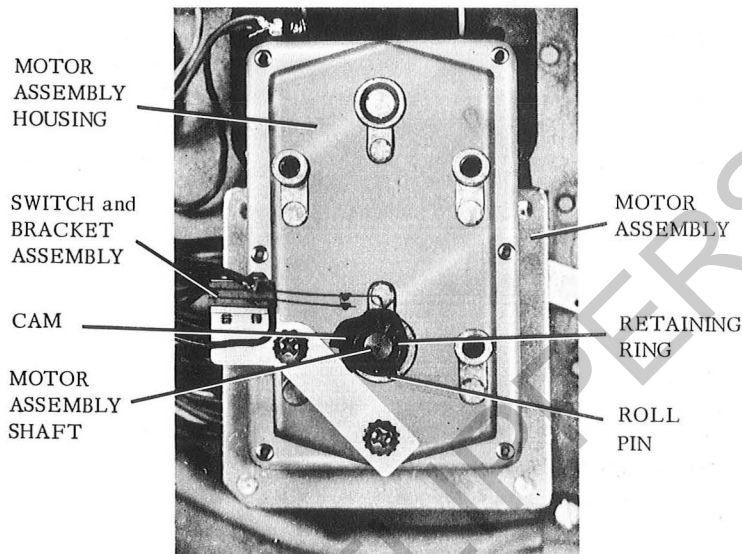

Figure 3.
16. Install ROLL PIN, Part No. 73782-32, in MOTOR ASSEMBLY SHAFT as shown in Figure 3.
17. Verify that MOTOR ASSEMBLY is in normal rest position then install CAM, Part No. 136524, on MOTOR ASSEMBLY SHAFT as shown in Figure 3.
18. Install RETAINING RING, Part No. 125797, on MOTOR ASSEMBLY SHAFT as shown in Figure 3.
19. Install and position SWITCH and BRACKET ASSEMBLY, Part No. 137884, on MOTOR ASSEMBLY HOUSING as shown in Figure 3. Secure SWITCH and BRACKET ASSEMBLY to MOTOR ASSEMBLY HOUSING with two Screws, Part No. 73533-25. Do not tighten screws at this time.
20. With V portion of switch blade resting on CAM as shown in Figure 3, adjust switch so that contacts are open .015" minimum.